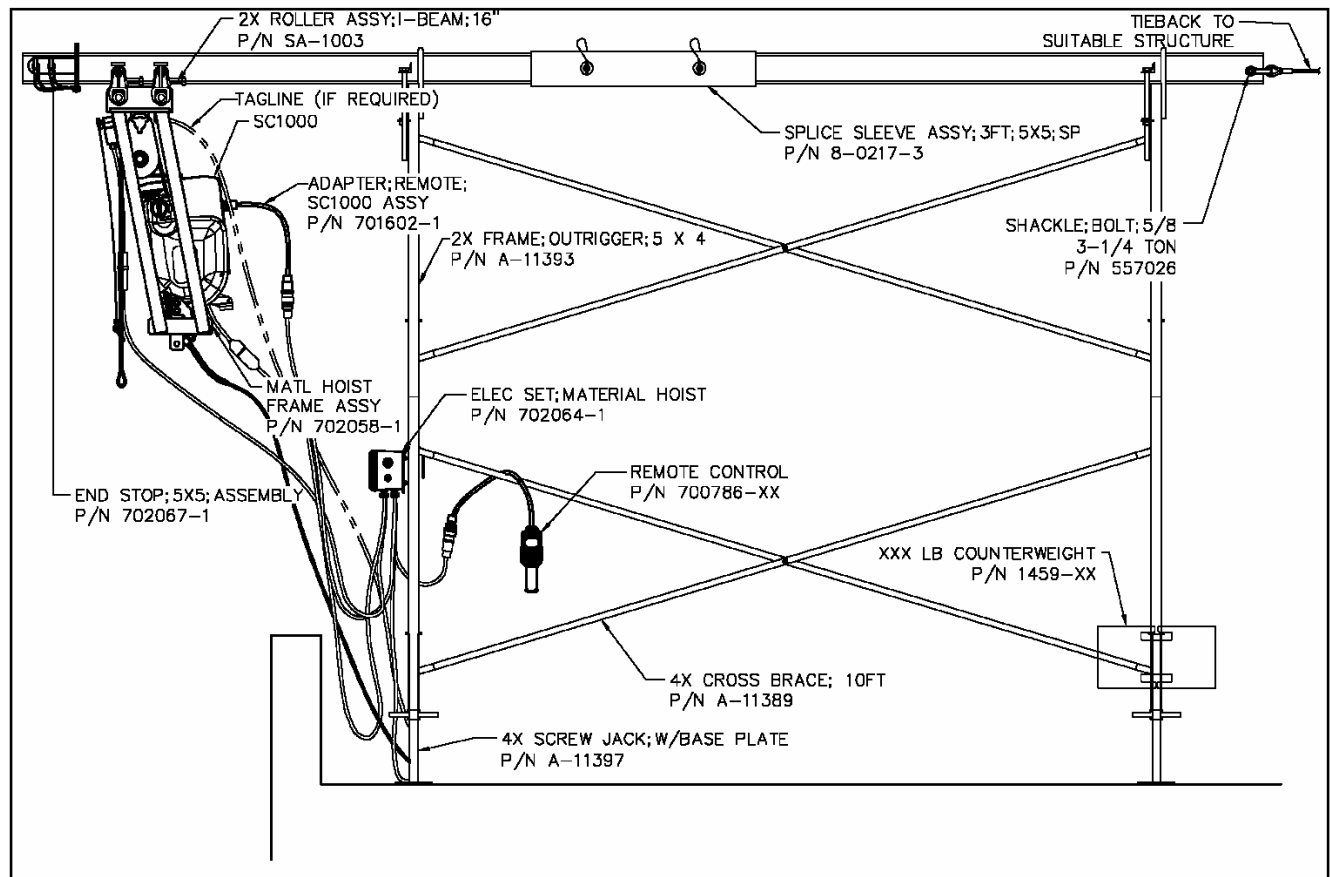

Figure 1.
1. The hoist frame that supports the traction hoist must be rigged to a support system (typically an outrigger beam) capable of supporting 4 times the load being lifted in addition to the weight of the hoist, frame, and wire rope. Refer to rigging labels and operating instructions to construct the proper support system. Refer to Figure 1 illustrating a typical rigging set up.